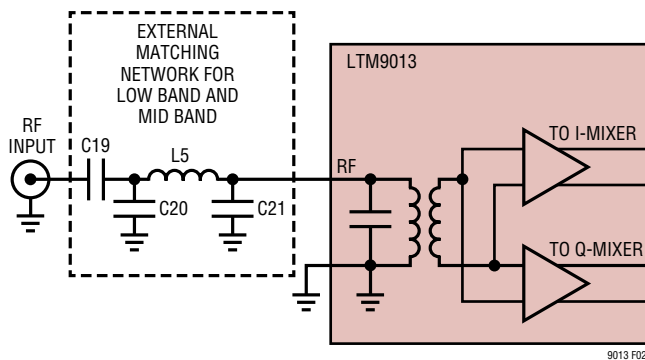
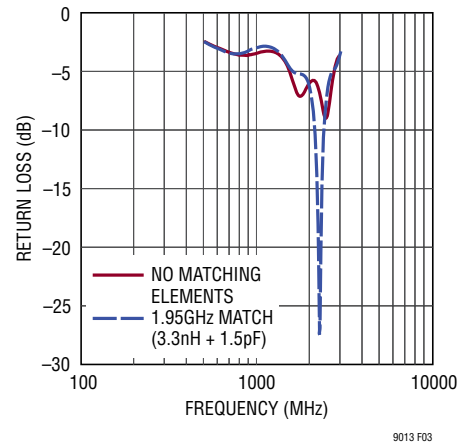

Figure 2. RF Input Interface
Figure 3. RF Input Return Loss with External Matching
**RF (Pin A10):** RF Input Pin. This is a single-ended 50Ω terminated input. No external matching network is required for the 1.5GHz to 2.7GHz band. An external series inductor (and/or shunt capacitor) may be required for impedance transformation to 50Ω in the band from 700MHz to 1.5GHz, or for the band from 2.7GHz to 4GHz (see Figure 2). If the RF source is not DC blocked, a series blocking capacitor should be used. Otherwise, damage to the IC may result.
Figure 2 shows the mixer's RF input which consists of an integrated transformer and high linearity transconductance amplifiers. The primary side of the transformer is connected to the RF input pin. The secondary side of the transformer is connected to the differential inputs of the transconductance amplifiers. Under no circumstances should an external DC voltage be applied to the RF input pin. DC current flowing into the primary side of the transformer may cause damage to the integrated transformer. A series blocking capacitor should be used to AC-couple the RF input port to the RF signal source.
The RF input port is internally matched over a wide frequency range from 1.5GHz to 2.7GHz with input return loss typically better than 10dB. No external matching network is needed for this frequency range. When the part is operated at lower frequencies, however, the input return loss can be improved with the matching network shown in Figure 2. Shunt capacitors C20, C21 and series inductor L5 can be selected for optimum input impedance matching at the desired frequency as illustrated in Figure 3. C19 serves as a series DC blocking capacitor.